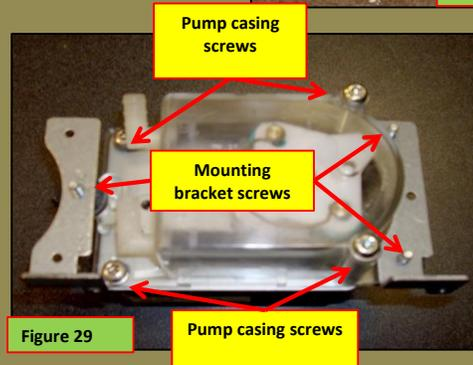

Figure 29
4. Remove the 3 screws securing the mounting brackets to the pump casing; see Figure 29.
5. Remove the 4 T20 screws securing the pump casing to the motor; see Figure 29.